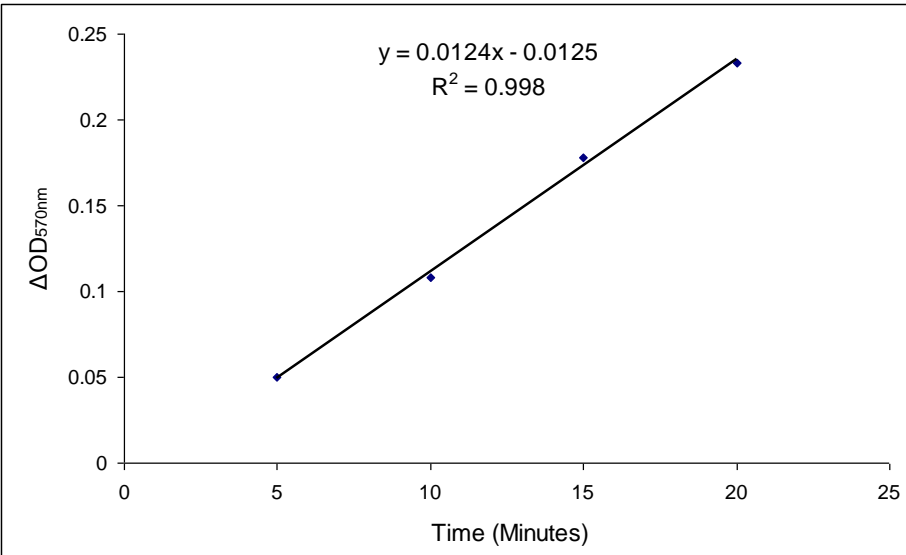

Figure 2. The change in absorbance,  $\Delta OD_{570nm}$ , of diluted PK positive control during the indicated time at 570nm.
Diluted PK positive control is measured with the PK Assay kit after various reaction times (Figure 2). The linear range of detection is 0.3 to 9.6 U/ml in a 96-well plate assay.
4. Obtain the change in absorbance, T20 and T0, based on the curve of the diluted PK positive control, as shown in Figure 2.